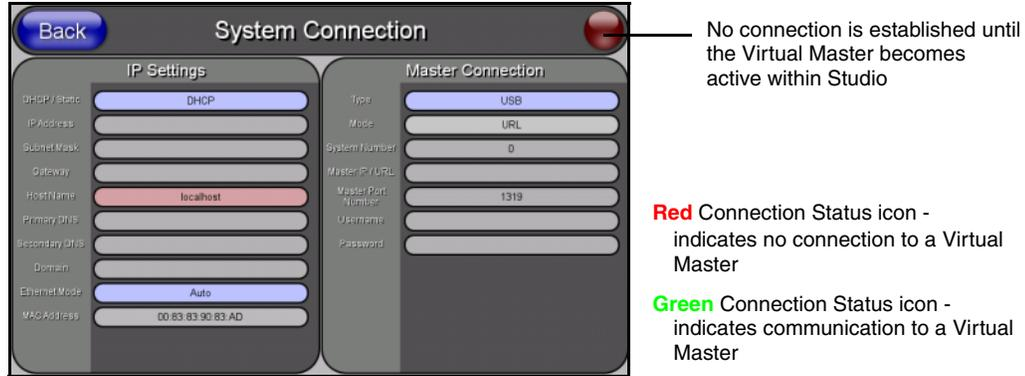

FIG. 50 USB System Connection page - using a USB Connection Type
4. Select **Protected Setup > System Connection** (located on the lower-left) to open the System Connection page (FIG. 50).